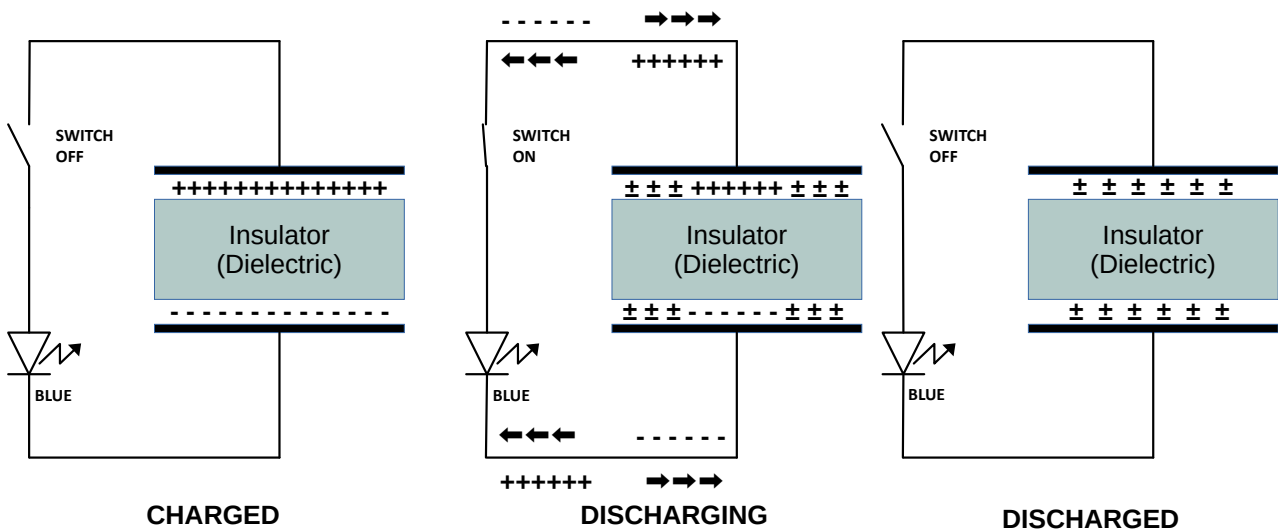

Figure 41: Discharging a capacitor
16. Explain: A charged capacitor can be discharged by connecting it to a load, for example an LED, as shown in Figure 41. When the switch is closed and the load is connected, an electric current flows for a short time. It moves the positive and negative charges, in opposite directions, back to their original positions in the discharged state. Then the electric current stops flowing. The LED will flash on when the capacitor is discharging.